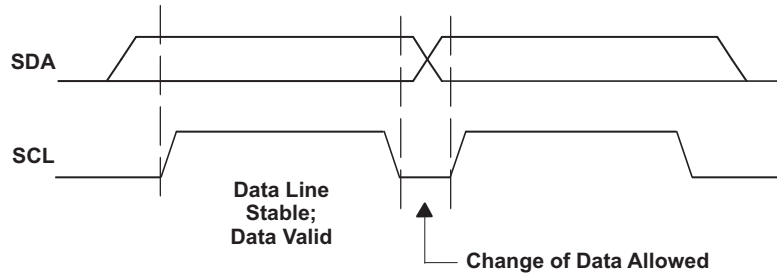
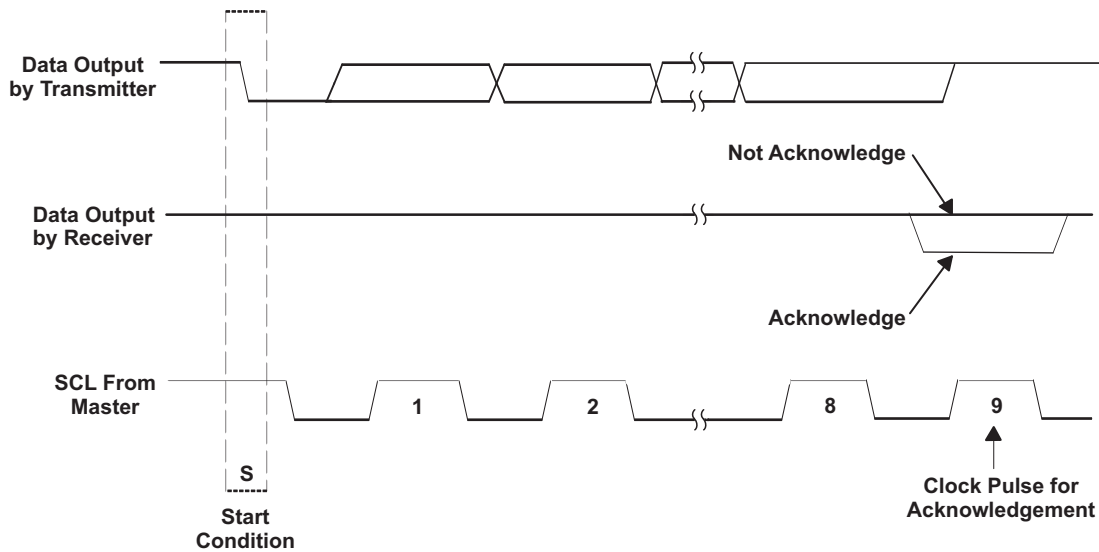

Figure 72. I2C Bit Transfer
Figure 73. I2C Acknowledge
- The master then generates the SCL pulses and transmits the 7-bit address and the read/write direction bit R/W on the SDA line. During all transmissions, the master ensures that data are valid. A valid data condition requires the SDA line to be stable during the entire high period of the clock pulse (see Figure 72). All devices recognize the address sent by the master and compare it to their internal fixed addresses. Only the slave device with a matching address generates an acknowledge (see Figure 73) by pulling the SDA line low during the entire high period of the ninth SCL cycle. On detecting this acknowledge, the master knows that a communication link with a slave has been established.